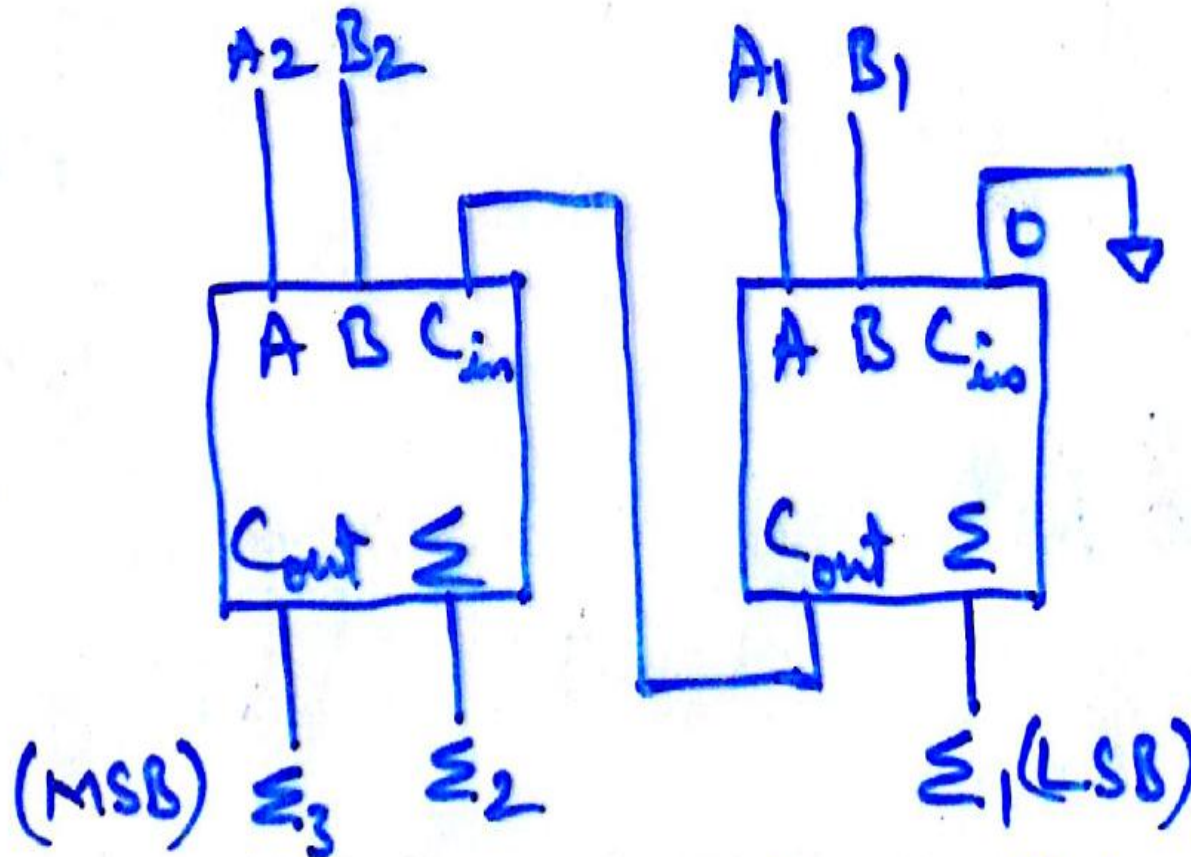

Figure 6-15 A 2-bit parallel binary Adder
- These two full adders are to be connected in parallel as shown in figure 6.15.